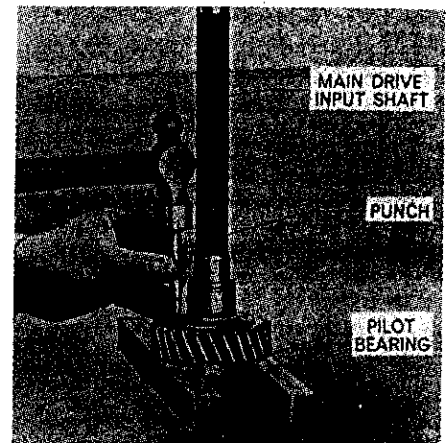

Fig. 206—Driving pilot bearing from rear end of main drive input (clutch) shaft.
On all model 4000, unbolt the transmission input shaft bearing retainer (15—Fig. 208) and remove input shaft, bearing and retainer assembly. The pilot bearing (17) should be removed with the input shaft and can be removed from shaft as shown in Fig. 206.